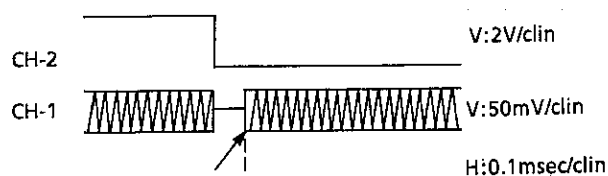
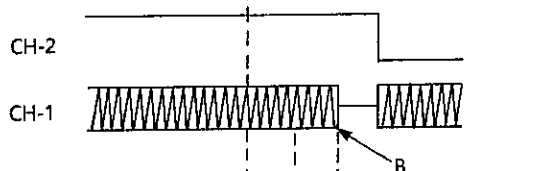

Figure 2-8.
Figure 2-9.
- 3. Turn HiFi head switching pulse adjustment potentiometer R1703 fully counterclockwise to obtain the waveform as shown in Figure 2-8.
- 4. Turn R1703 clockwise to obtain the waveform as shown in Figure 2-9.
- 5. Adjust R1703 so that the trailing edge of the head switching pulse aligns at  $50\text{ }\mu\text{sec}$  to the left of the middle position between point A in Figure 2-8 and point B in Figure 2-9.